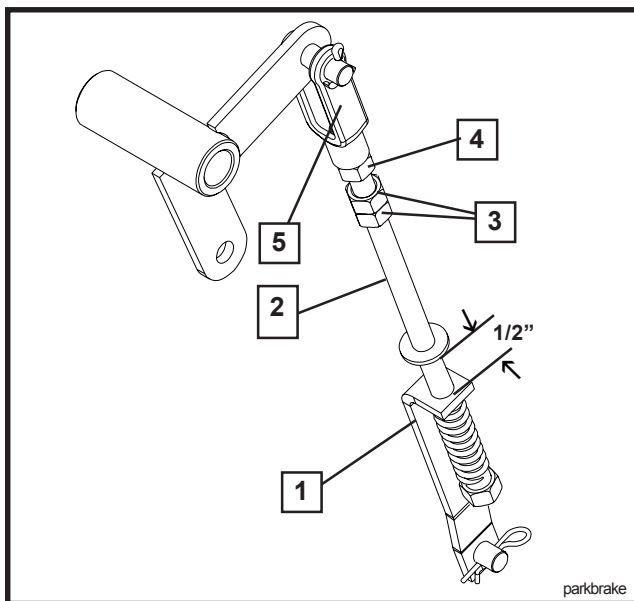

FIGURE 19
NOTE: Make sure the brake arm is engaged into brake sprocket on both sides. You can push the mower to make it engage into the sprocket. See Fig. 19.
- If not loosen the nut against the yoke and turn the secondary linkage using the double nuts until the 1/2" gap is achieved on both sides. See Figure 19.